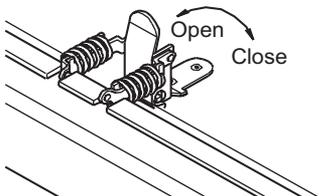

Figure 45 - Opening Door Latches
3. To open glass door, undo latches located on top and bottom of firebox (see Figure 45, page 25). Note: Use caution when opening these latches. Carefully open door by swinging it to the left. Glass door is mounted to firebox with 5 screws.